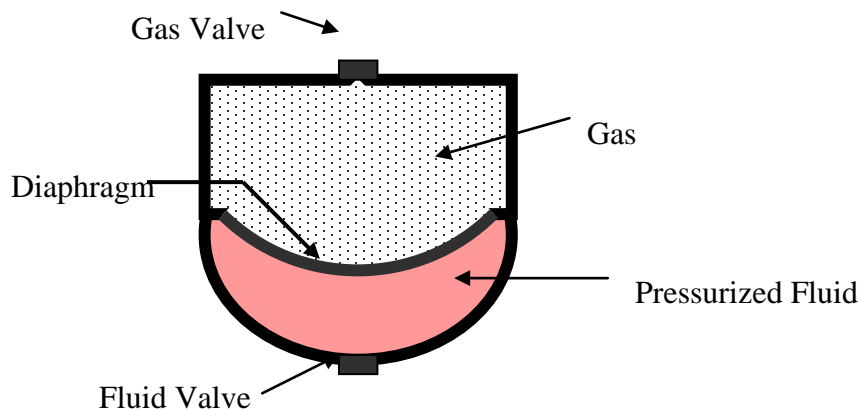

Fig 5.28 Diaphragm Accumulator
- ii) **Diaphragm Accumulator:** The diaphragm type accumulator consists of a diaphragm, secured in the shell, which serves as an elastic barrier between the oil and gas (fig 5.28). A shutoff button, which is secured at the base of the diaphragm, covers the inlet of the line connection when the diaphragm is fully stretched. The primary advantage of this type of accumulator is its small weight-to-volume ratio, which makes it suitable almost exclusively for mobile applications. The restriction is on the deflection of the diaphragm